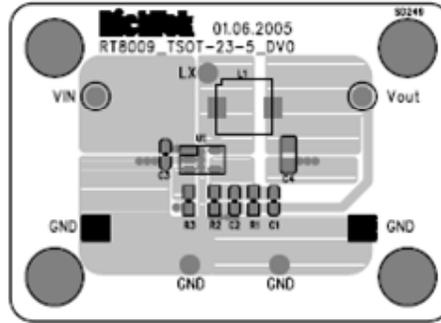
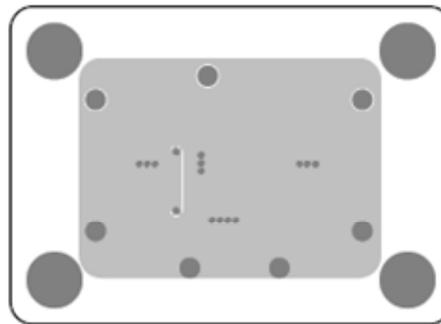

Figure 7. Top Layer
Figure 8. Bottom Layer
- › An example of 2-layer PCB layout is shown in Figure 7 and Figure 8 for reference.